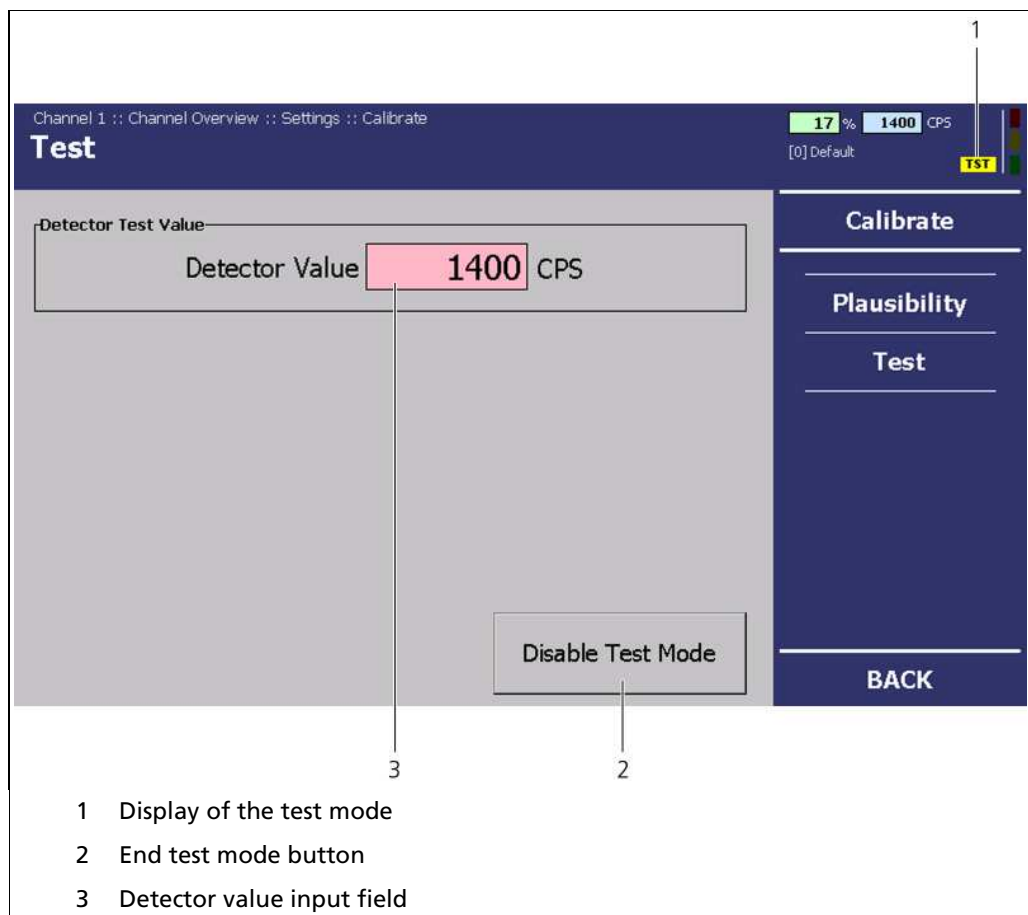

Fig. 60 "Channel Overview" Menu, Settings - Calibration (Test)
In the "Test" submenu, you can enter a test count rate (Fig. 60, Pos. 3) which is used instead of the count rate of the GAMMAcast detector to calculate the fill level. As long as this test count rate is in effect, the background of the input field will be shown in red. The calculated fill level is displayed (Fig. 60, Pos. 3).
1. Click in the input field (Fig. 60, Pos. 3).
⇒ The test mode is started (Fig. 60, Pos. 1).